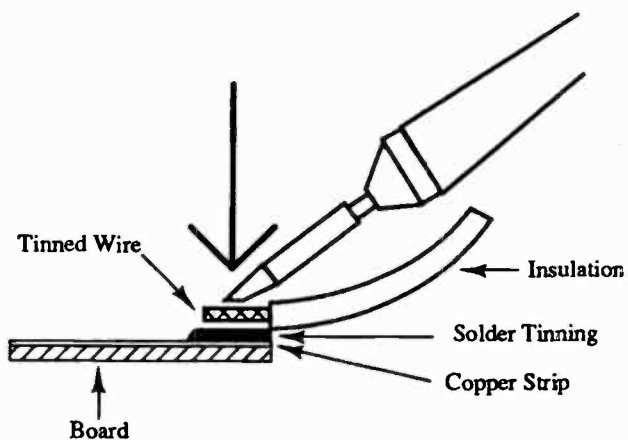

Fig. 8.6 Final position for soldering wire
- (iii) Place the soldering iron bit on to the wire (not the track) and watch the solder melt around the wire and then the track (Figure 8.6).